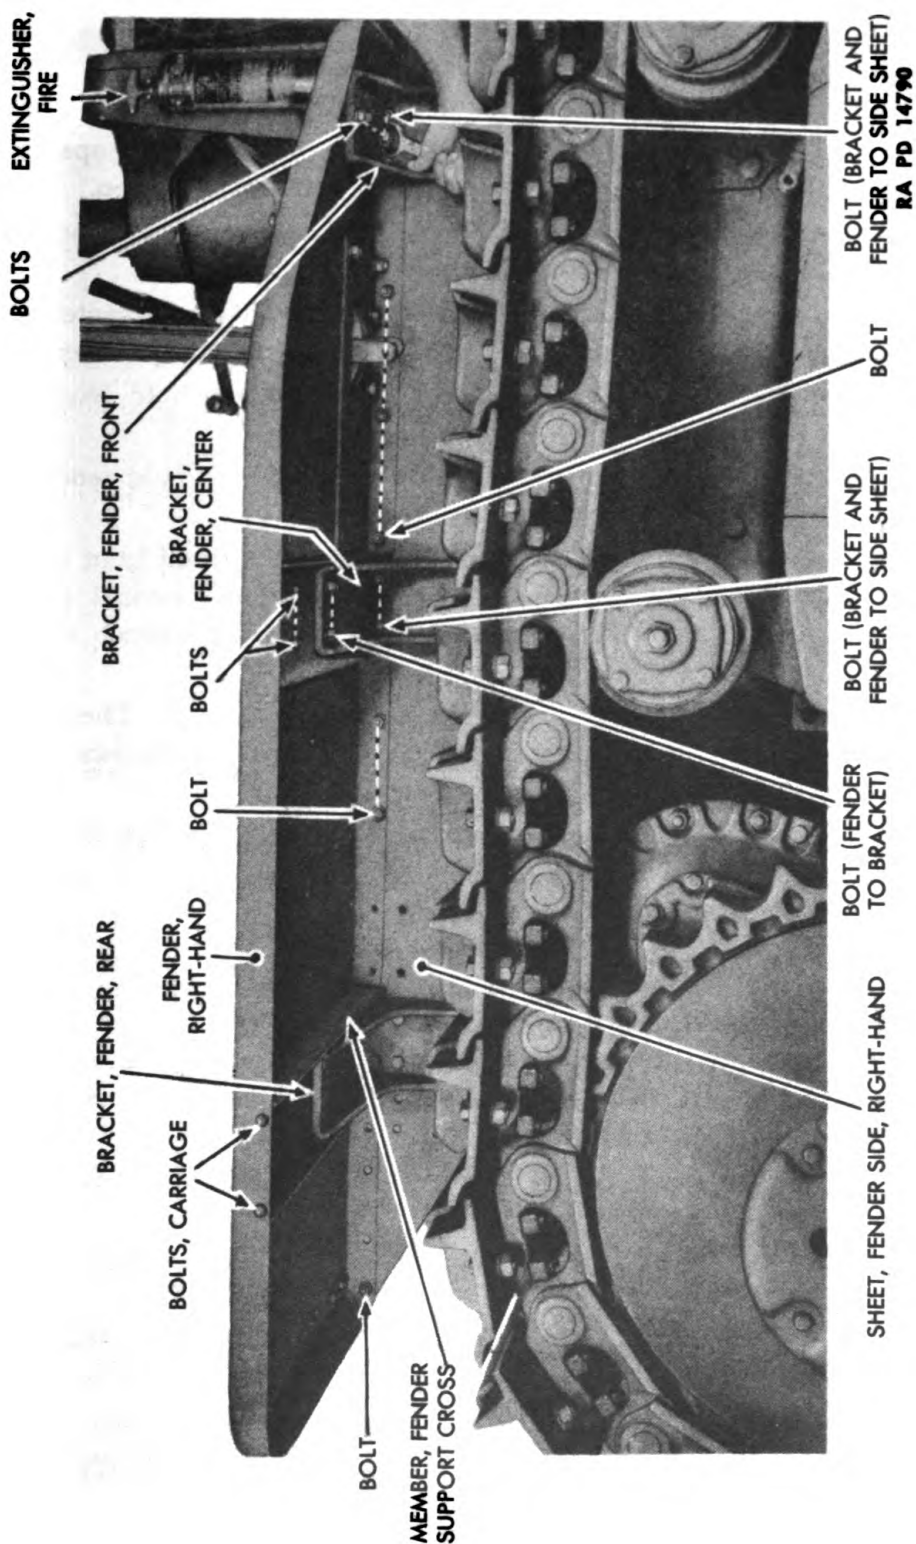

Figure 192 — Right Fender Removal
(11) REMOVE RIGHT FENDER (fig. 192).
(13) REMOVE LEFT FENDER (fig. 192).